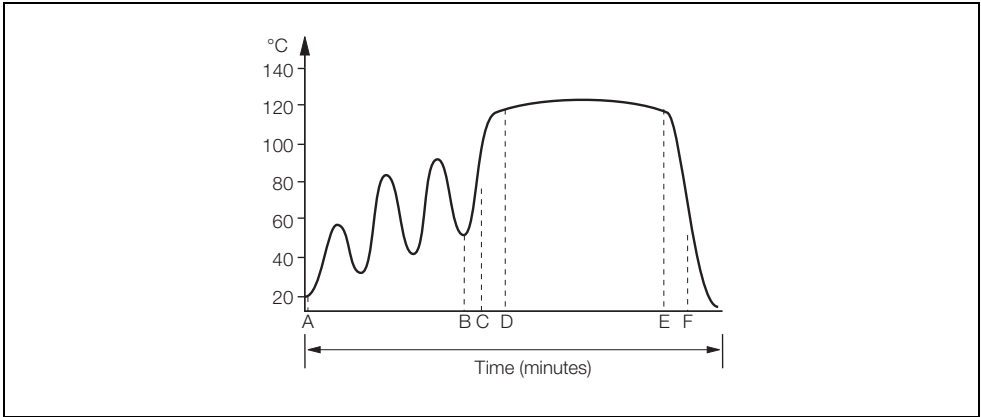

Fig. E.2 Typical Steam Sterilization Cycle
**Example** – A typical steam sterilizing cycle – see Fig. E.2.